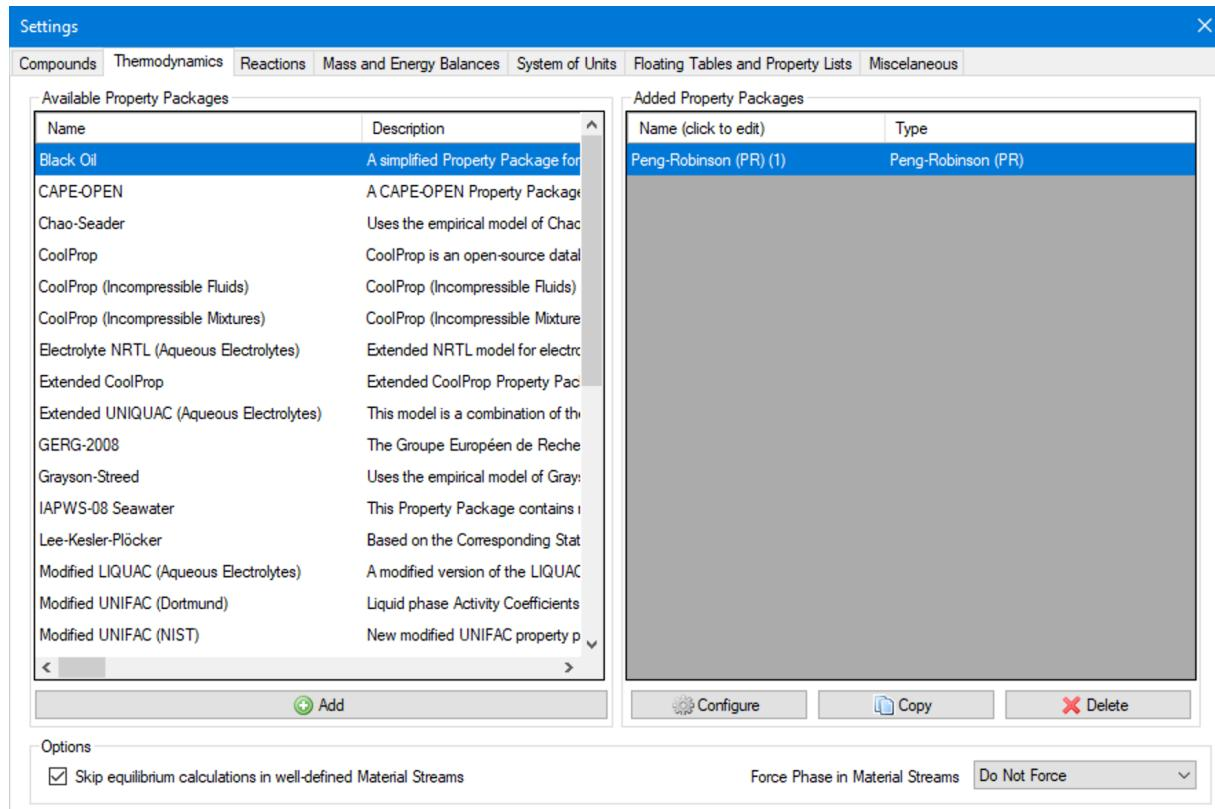

Figure 9: Property Package configuration interface.
**2.2.2.2. Property Packages** The Property Package consists in a set of methods and models for the calculation of physical and chemical properties of material streams in the simulation. It is composed of a thermodynamic model - an equation of state or a hybrid model - and methods for property calculation, like the surface tension of the liquid phase. The figure 9 shows the interface for configuration of the property package.